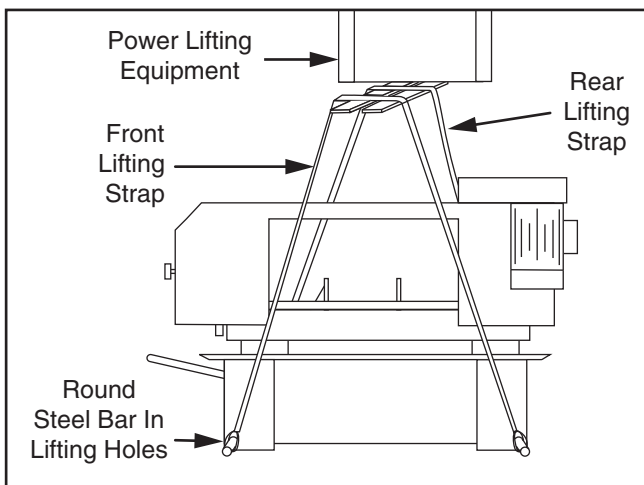

Figure 23. Lifting machine with forklift and lifting slings.
- Insert round steel bar stock through (4) lifting holes in machine base (see **Figure 23**).
- Attach lifting slings to steel bar stock and power lifting equipment (see **Figure 23**).